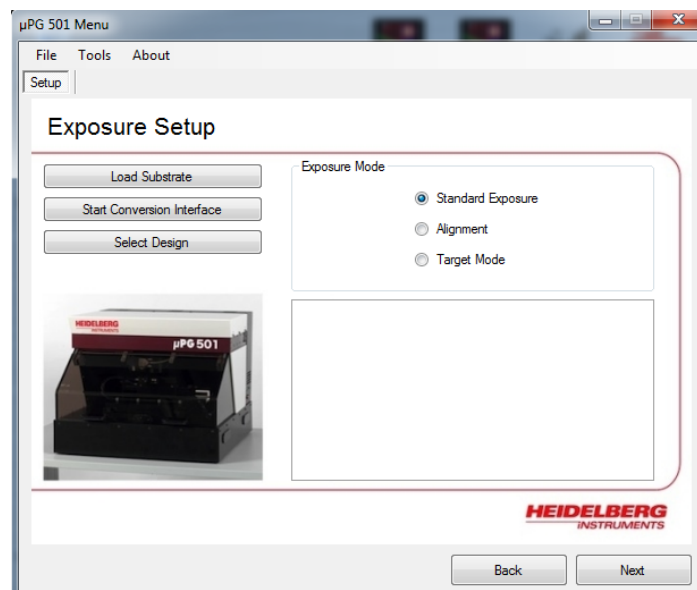

Figure 2: The initial tool menu screen that should be present when you start the mask maker.
5. At the welcome screen of the tool menu, click the 'next' button. This will bring up a slightly different screen (Figure 2). Click on the 'start conversion interface' to begin the mask conversion process.